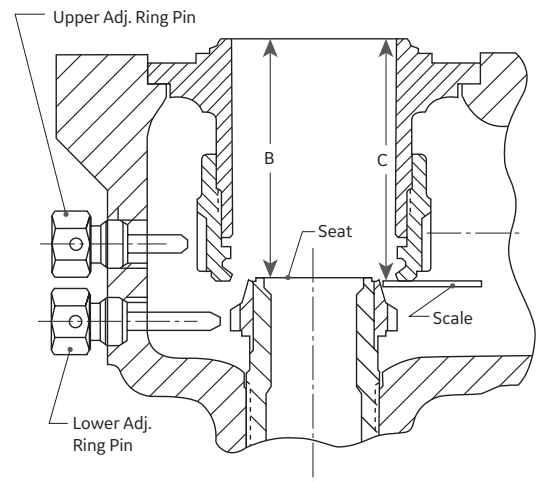

Figure 14: Guide - Bushing Seat Assembly
12. Measure from the top of the guide to the bushing seat (Dimension B, Figure 14) with a depth micrometer or other suitable measuring device. **Record Dimension B.** Place a scale or other thin flat metal surface against the lower face of the upper adjusting ring and measure from the top of the guide to the face of the upper adjusting ring (Dimension C, Figure 14). **Record Dimension C.**